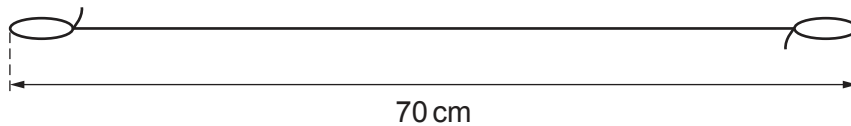

Figure 4.1
4.1 The string must be of length 70 cm with a small loop at each end as shown in Figure 4.1.